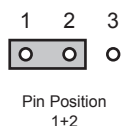

Figure 2.2 JP7 — Default Position
- **Pin 1** (left) + **Pin 2** (center) position — In this position, the analog reference is terminated with an 75 Ohm resistor. This configuration is to be used for point-to-point cabling, or on the last card of a daisy chain topology. This is the default position (**Figure 2.2**).